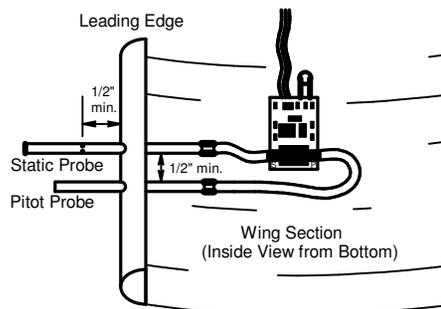

Figure 2
- 3) The static probe has one end sealed and a series of small side holes. The plugged end faces forward. The small holes should be at least ½ inch (12 mm) from the leading edge of the wing (see Fig. 2).